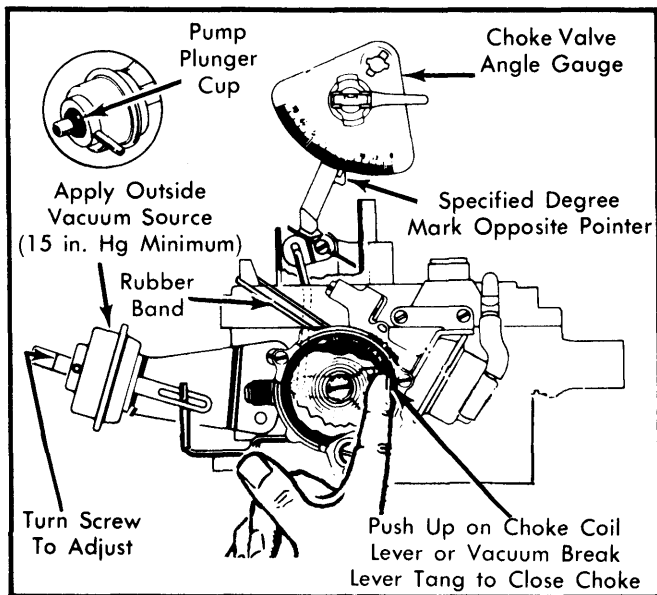

Fig. 9 Adjusting Secondary (Rear) Vacuum Break
1) On delay models with air bleed, plug end cover using an accelerator pump plunger cap. Using an outside vacuum source of at least 15 in. Hg, seat vacuum diaphragm. See Fig. 9.